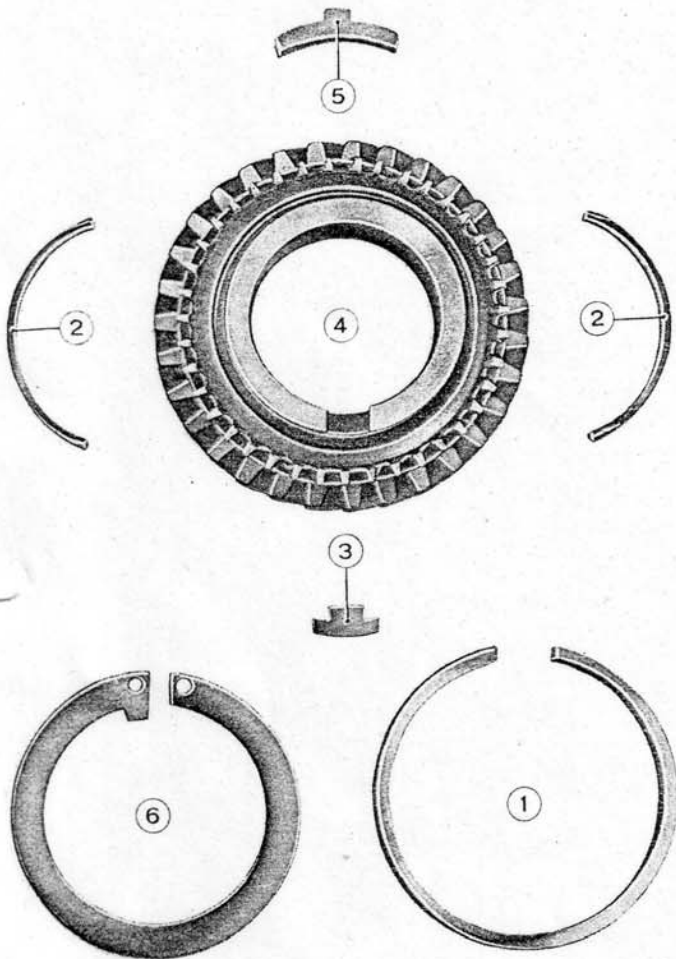
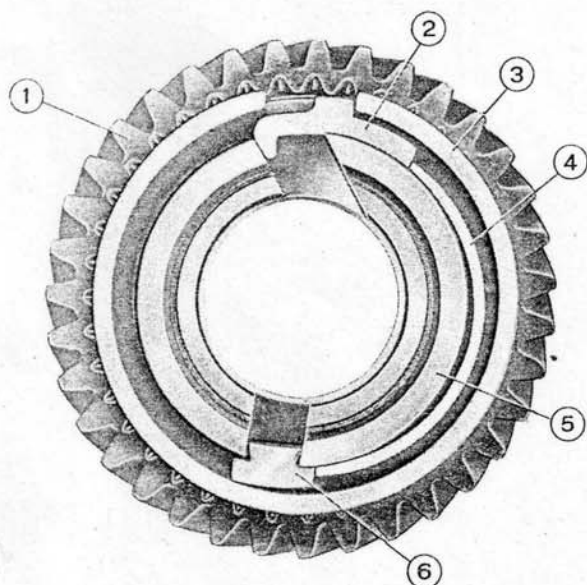

Fig. 51. - Third speed gear and synchronizer components.
Fig. 54. - First gear synchronizer fitted on gear.
Gear synchronizers are of the spring-ring type (fig. 54).
Synchronmesh of 2nd, 3rd, 4th and 5th gears is obtained thanks to the use of the items shown in figures 51 and 52.
As the slip sleeve is moving on, the synchronmesh ring (1, fig. 51) gradually equalizes rotation speeds.
Under the action of the slip sleeve, the synchronmesh ring (1, fig. 51) is dragged to abut with one end, both on acceleration and deceleration, against the thrust plate (5, fig. 51), which causes such a wrapping effect as a quick mesh is obtained.
For a better adherence of the synchronmesh ring against the slip sleeve, two spreader springs (2, fig. 51) have been designed to work one on override and the other on underide.
As a matter of fact the spreader spring is compressed between the thrust plate (5, fig. 51) and the stop plate (3), so that it spreads out against the synchronmesh ring.
NOTE - The synchronmesh device shown in figs. 51 and 52 applies to the 2nd, 3rd, 4th and 5th gears, being just identical, whereas the device for the 1st gear differs in design (fig. 54).
With a view to relieving to a great extent the driver of the effort involved with the engagement of the 1st gear when starting at standstill, a synchromesh device has been provided which has one spreader spring (4, fig. 54) operating solely in the downshift from second to first gear.
Moreover, the thrust plate (2, fig. 54) of the 1st gear synchronizer has an end lug jutting in into a slit in the gear.